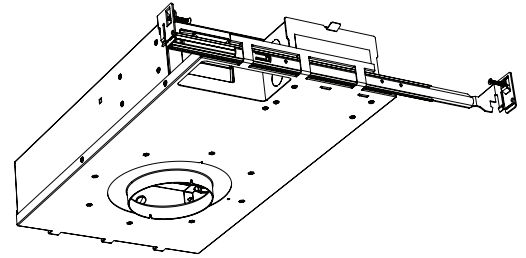

fig. 3
- c. Insert the outer nailer bar into the same housing clasps, locking the inner and outer halves together. Make sure the screw is on top. (see fig. 3)
- b. Screw the ends of both bars into the wooden joists, fixing the housing in place. (see fig. 3)